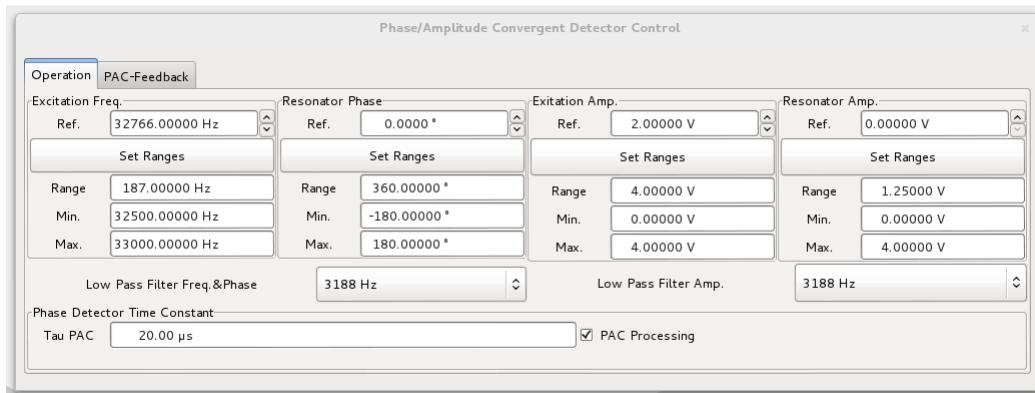

Figure 23.82.: PAC/PLL initial operation boundary setup example. Time constant set to $20 \mu\text{s}$ here, PAC processing enabled.
4. Operational ranges setup. This defines the range mapping and actual sensitivities for excitation frequency, resonator phase, excitation and resonator amplitudes. Set the phase range to $360^{\circ} (\pm 180^{\circ})$ for tuning (see Fig. 23.82). Select reasonable ranges for amplitudes matching your system needs.